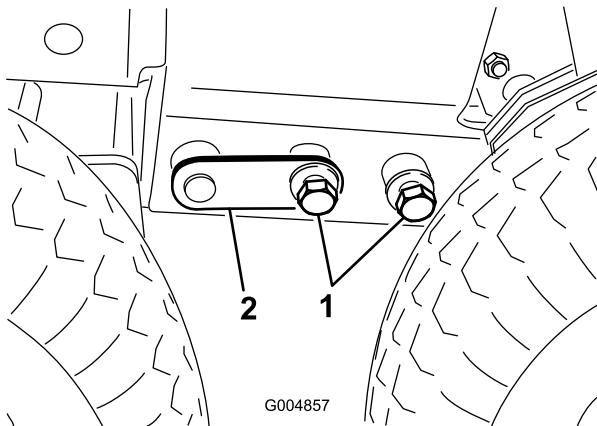

Figure 114
23. Adjust the floor jack or rock the cab with your hands as required to install the bolts (3/4 inch) on each side (Figure 114). Torque the bolts to 265 ft-lb (359 N·m).